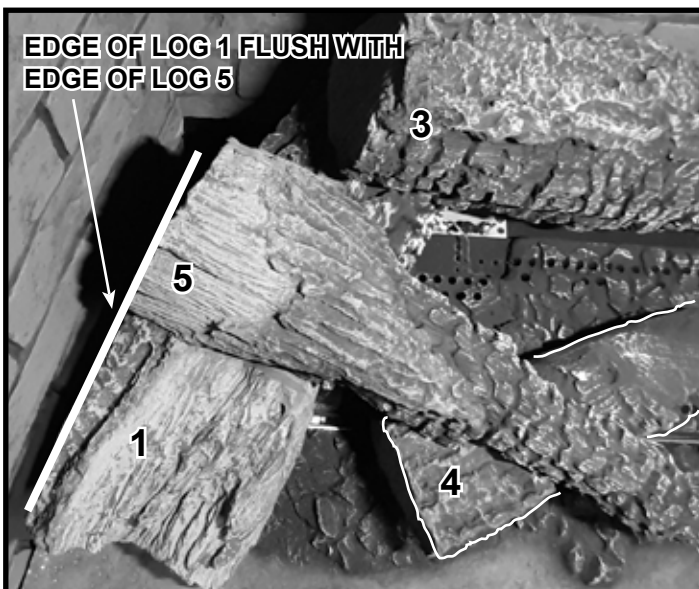

Figure 10 Place Log #5 (LOGS-6K / LOGS-6KX / LOGS-6-BIR)
**LOGS-6K / LOGS-6KX / LOGS-6-BIR:** Place the large end of Log #5 on the flat area of Log #1, highlighted in Figure 3.A. The other end rests on the flat area of Log #4 as referenced in Figure 7. The edge of the large end of Log #5 should be flush with the back edge of Log #1 as shown in Figure 10.